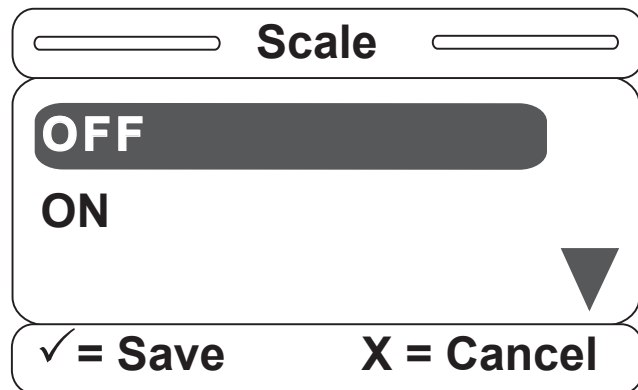

Figure S-9
9. Once the Scale item is selected, the screen in Figure S-9 will be displayed. You can set the Scale option to ON or OFF. Hit "Enter" on the footboard panel to make your selection or hit "Exit" to cancel.